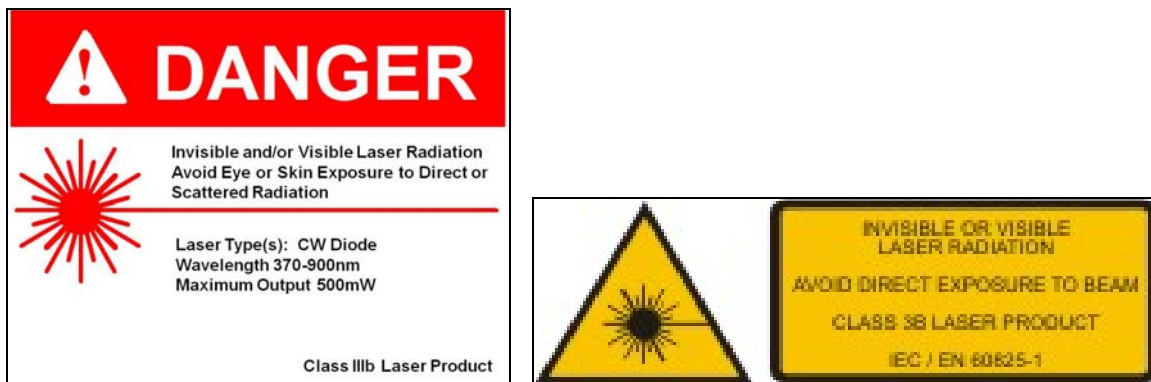

Figure 2-1: These CE and CDRH standard safety warning labels would be appropriate for use as entry warning signs (EN 60825-1, ANSI Z136.1 Section 4.7).
- Post prominent warning signs near the laser operating area (Figure 2-1).